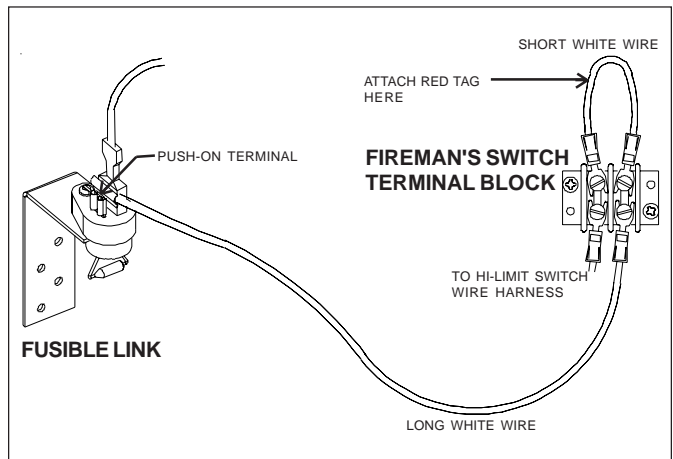

Figure 8. Fireman's switch terminal block wiring.
E. Replacing the Fireman's Switch Terminal Block Wires- (See Figure 8.)